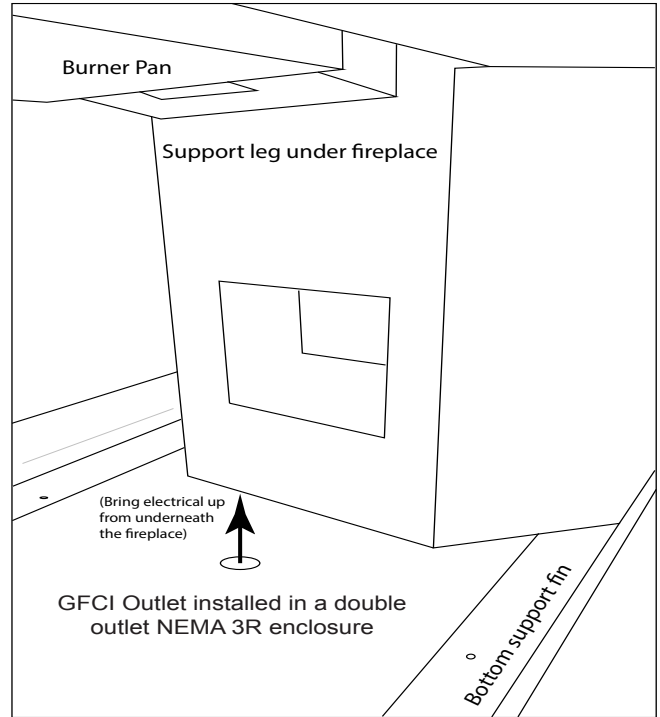
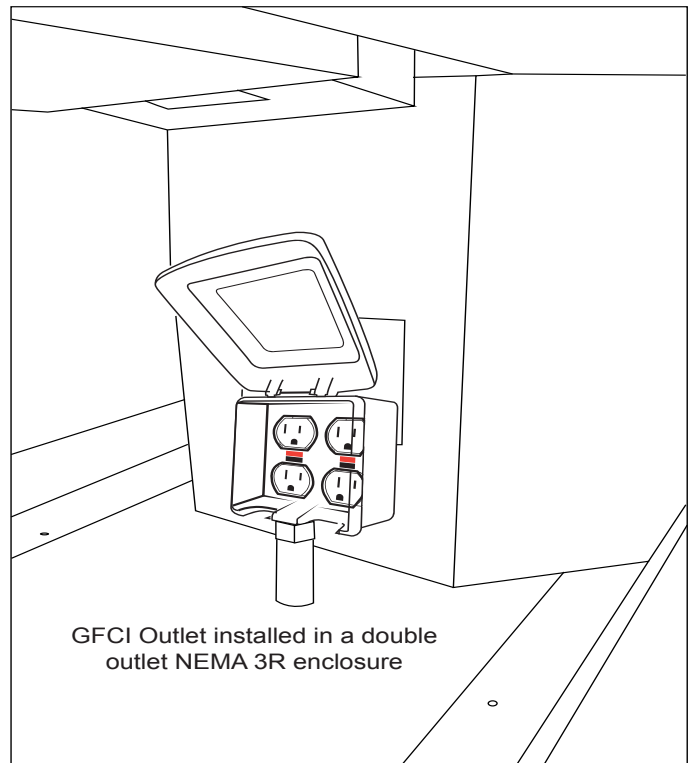

Fig. 14 GFCI box location under fireplace
Fig. 15 Show GFCI box mounted in fireplace
Note: This is not a requirement; however, with the gang box on the opposite side of inlet will create more room for LED installation. Fig. 15 shows GFCI gang box installed.
Step 2: Find mounting location for the GFCI gang box. Fig. 14 shows flat area underneath burner pan. Mount box underneath the burner pan, below the square (cutout) hole area. Fig. 15 shows the GFCI outlet double gang junction box with a weatherproof cover mounted underneath the fireplace.